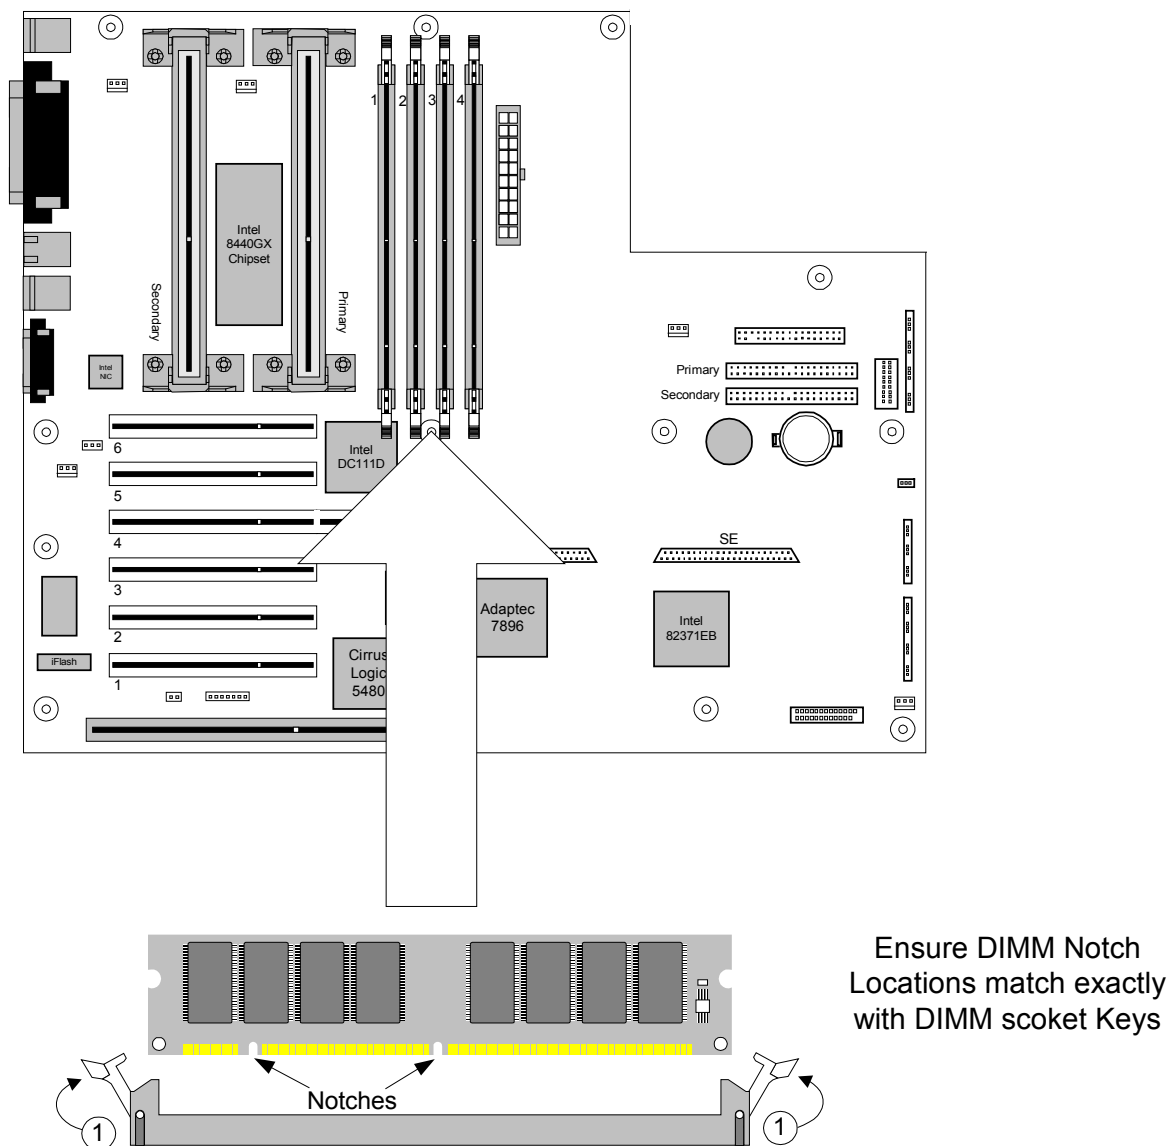

Figure 6.1
7. When the DIMM is seated, push down on the top edge of the DIMM until the retaining clips at the ends of the socket snap into place. Make sure the clips are firmly in place, marked 1 in **Figure 6.1**.